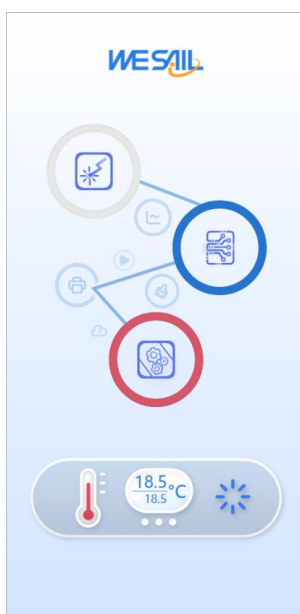

Figure 4 Self-inspection interface
2. Long press the on/off button on the right side of the instrument to turn on the power, the analyzer will start and carry out the initialization and self-inspection process (including testing basic software, hardware functions and temperature for normalcy), after the self-inspection passes, it will directly enter the login interface (Figure 4 below).